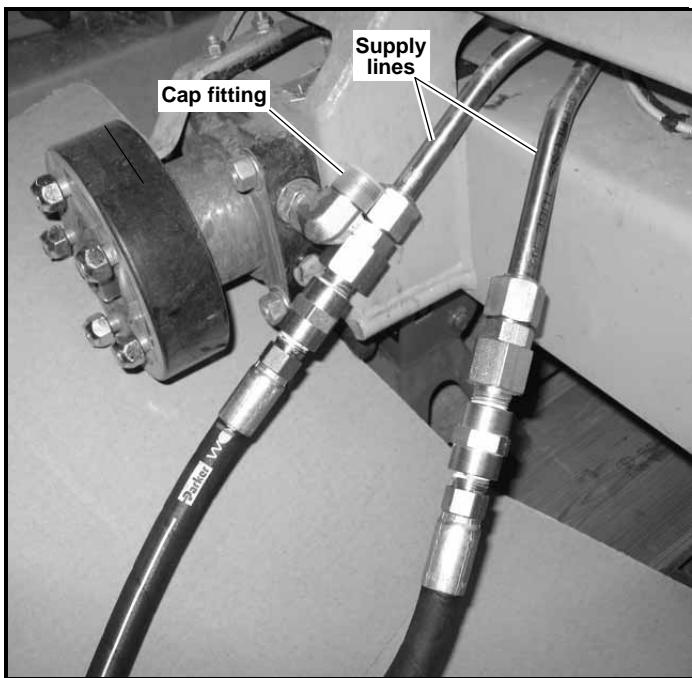
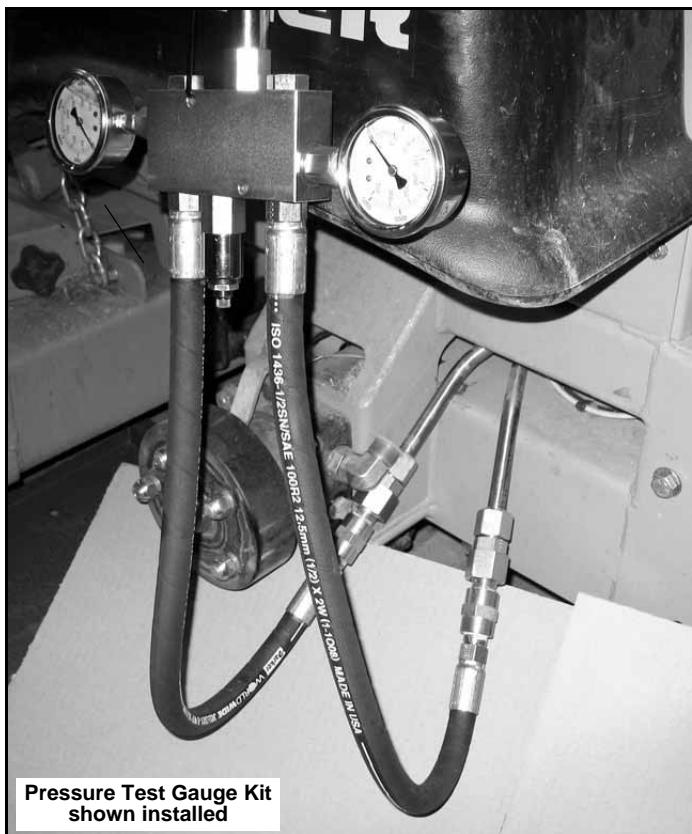

Figure 4-18
Figure 4-19
8. Install Hustler Test Gauge Kit (p/n 007898) as shown in Figure 4-18 and Figure 4-19. Check the bypass valve (tow valve) to make sure it is fully seated. Figure 4-20